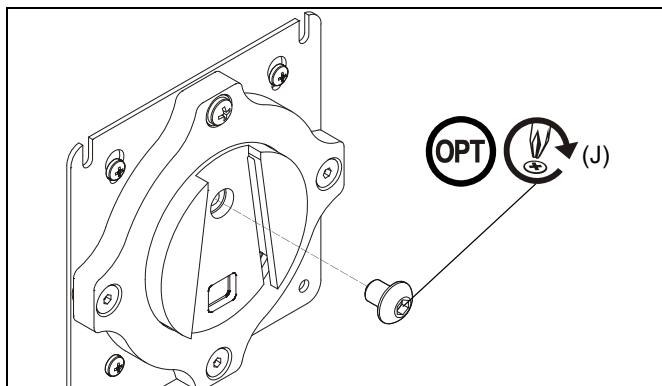

Figure 14
NOTE: (Optional) Rotational adjustment may be locked by installing rotational locking screw (J) into back of faceplate. (See Figure 14)